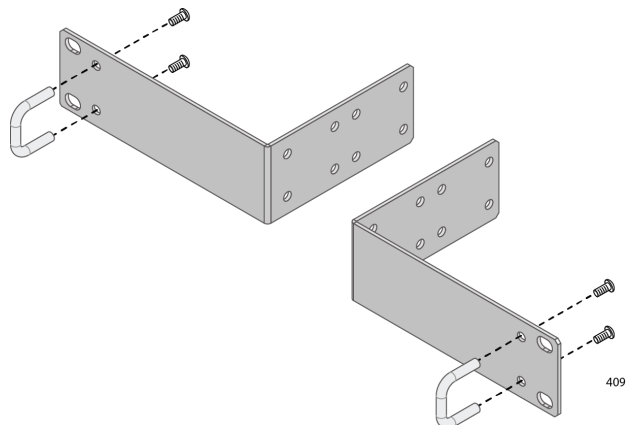

Figure 13. Attaching the Handles to the Brackets
5. Attach the handles to the brackets as shown in Figure 13.